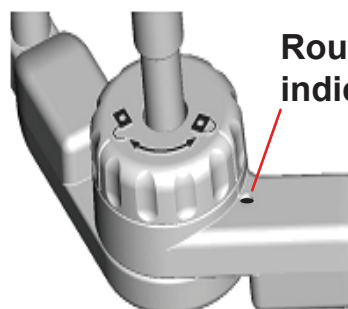

Figure 6
- Turn the base knob clockwise, align the locked symbol on the base knob and the round dot on the bottom. In this way, it will be locked, as per **Figure 6**.